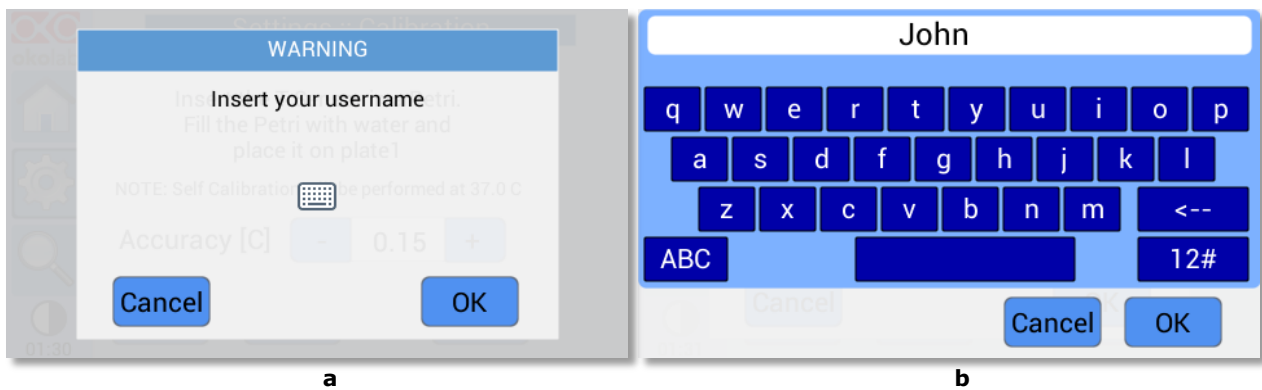

Figure 41. Username input. (a) Selection of the keyboard; (b) Operator name Input
- 4 Type your name in the dialog box, as shown in Figure 41